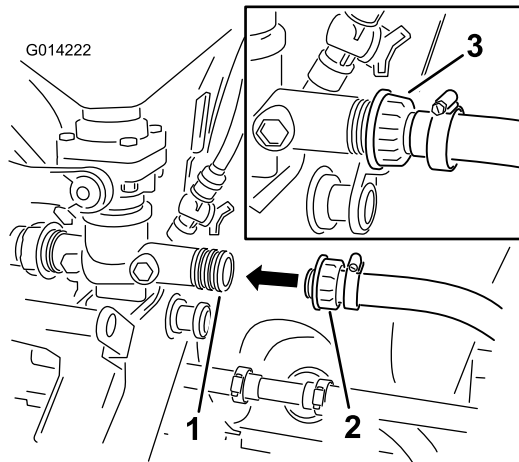

Figure 26
2. Install the assembled end of the hose to the rear facing opening on the eductor valve (Figure 26). Secure it to the eductor assembly with the plastic nut.